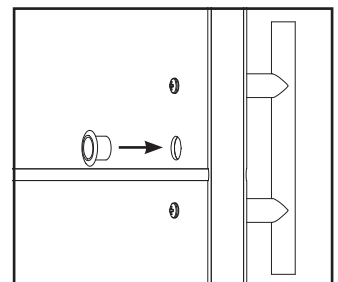

Figure 8. Pre-drilling for Finger Pull
2. Press finger pull into pre-drilled hole as shown in figure 8